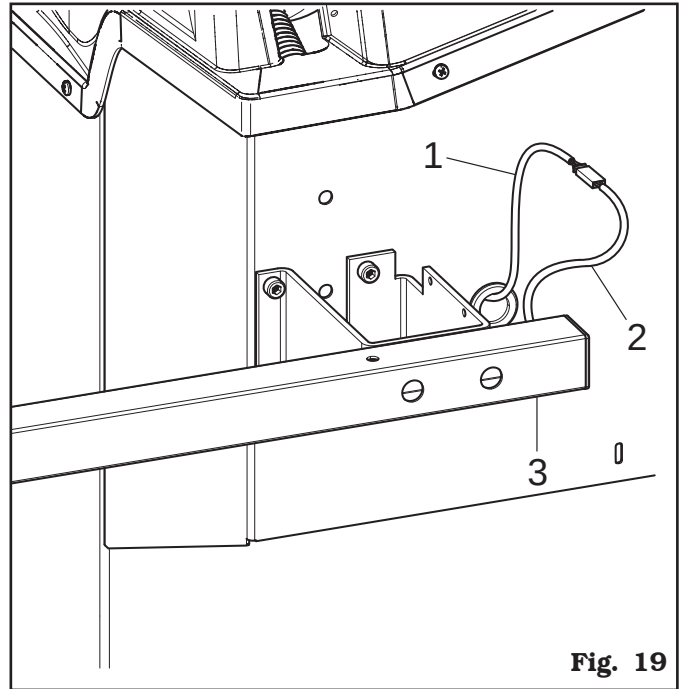

Fig. 19
3. Connect connector (**Fig. 19 ref. 1**) of the cable coming from inside the machine to connector (**Fig. 19 ref. 2**) of the cable coming from the gauge arm. Fit the section of the cable with the connectors inside the arm (**Fig. 19 ref. 3**).